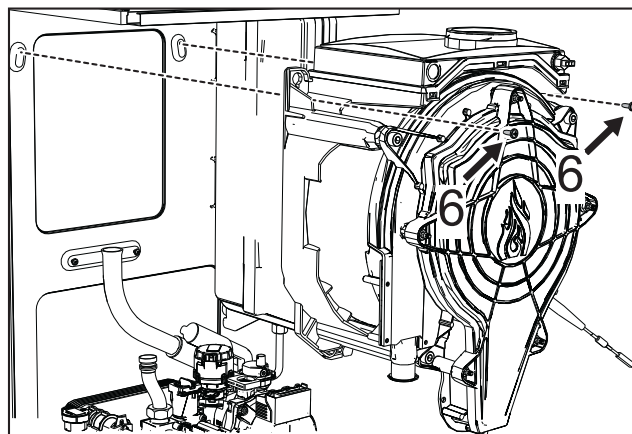

fig. 53
- Remove the 2 **top screws "6"** securing the exchanger to the frame (fig. 53)